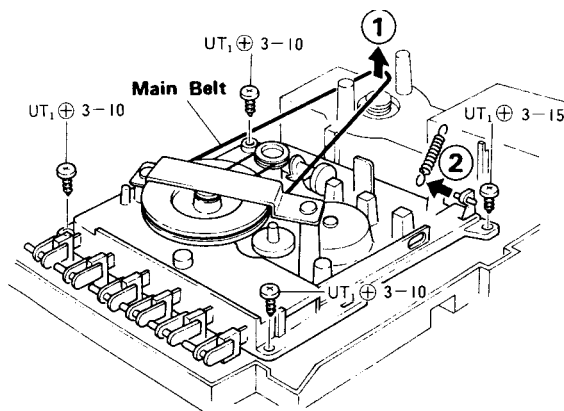

Fig. 10
- 3) Remove main belt and spring. (Refer to Fig. 10)
- 4) Remove 4 screws. (Refer to Fig. 10)